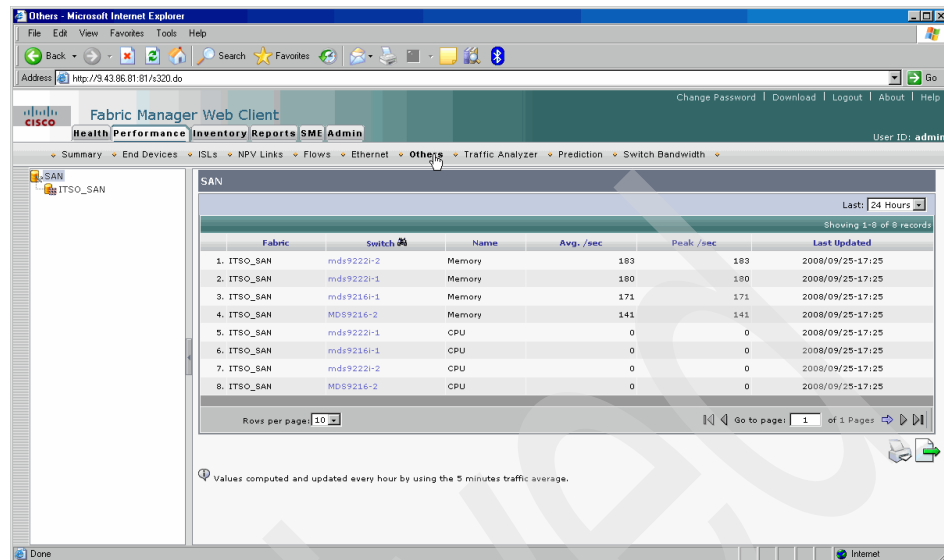

Figure 4-49 Performance report for CPU and memory utilization
- ▶ CPU and memory utilization (Figure 4-49 on page 125)